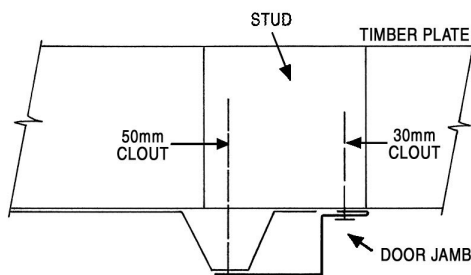

fig. 1
Step 1: Select one End Base Plate 1.355m (Green), one End Top Plate 1.355m (Red) and two Studs (Yellow). Lay out on flat surface and nail together using two 75mm nails per join (**fig. 1**). Repeat with the other end frame.
Step 1: Door Jambs: Position left hand Door Jamb Flashing at correct measurement from left (**cladding detail**) and nail to Top Plate using a 30mm clout. Do not fit 50mm nails at this stage. Pre-drill holes to make nailing easier (**fig. 1**).
Step 5: Drill a hole through Door Jamb Flashings and Wall Sheets top and bottom. Nail with 50mm nails (**fig. 1**).
Nail left hand Door Jamb Flashing to Stud using three 30mm Clouts at equal spacings (**fig. 1**). Beside each 30mm Clout, rivet Door Jamb Flashing to Rib. Repeat with right hand Door Jamb Flashing.
Standard Roof: Position Roof Sheets as shown in **fig. 1**. Make sure sheet joins at the back are flush. Rivet sheet joins, one rivet 200mm back from edge front and back. Fit one more rivet in centre of each join.
Position Roof Sheets as shown in **fig. 1**. When fitting Clear Panel ensure it OVERLAPS Roof Sheets. Rivet sheet joins, one rivet 200mm from edge front and back. When riveting Clear Panel to Roof Sheets use sealed rivets with washer (**fig. 2**). Fit one more rivet in centre of each join.